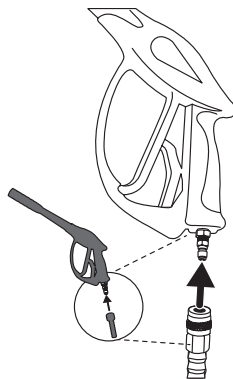

Figure 3-3
1. Pull quick-connect coupler back on the hose and insert gun. Release quick-connect coupler and twist gun to make sure it is secure in coupler. See Figure 3-3.